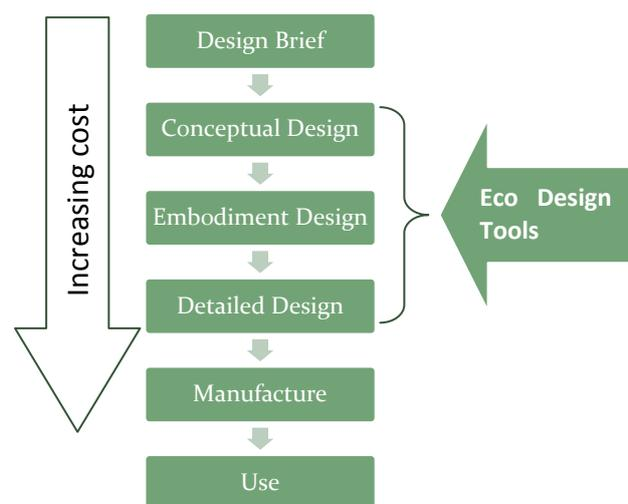

Figure 5: Granta's Eco Design tools meet the need for assessing environmental impact during design
Granta's core expertise in materials and process selection and materials information management, together with our understanding of the challenges of eco design (17), has allowed us to develop a range of practical eco design software tools complete with supporting materials and environmental data. They are designed to be used during the early stages of design—where changing the material and process choices costs least but matters most (Figure 5).